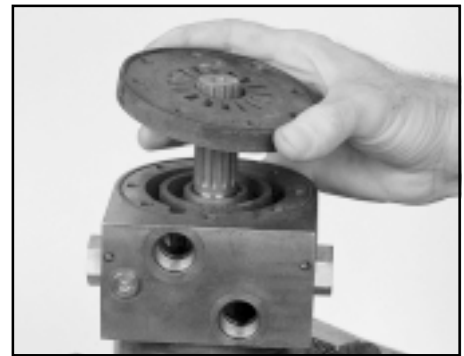

Figure A14
16. Place the commutator plate on the center block with the square ring groove facing up. Align the 8 bolt holes with the 8 tapped holes in the center block. SEE FIGURE A14